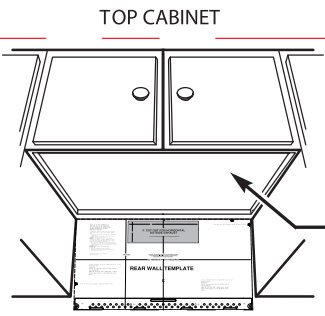

FIG. 1
1. Determine if your cabinet has a recessed area or a smooth, flat bottom. See Fig. 1. If smooth, tape template onto the bottom surface (Fig. 2). If it is recessed, cut the edges of the template to fit in the recessed bottom of the cabinet. It is important that the edges of the cabinets permit level installation of the oven.